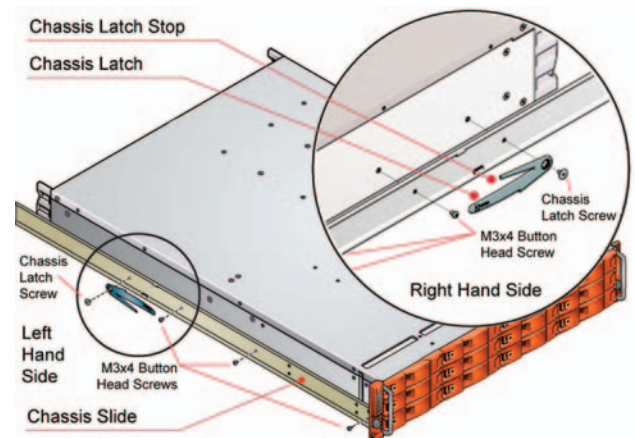

Figure 2: Securing Chassis Slides
2. Attach the left and right chassis slides to the enclosure sides using six M3x4 button head screws. Three screws each side see **Figure 2** for locations.
3. Assemble the left and right chassis latches using the chassis latch screws. Ensure that the latch is orientated as shown in **Figure 2**, with the spring arm (small arm portion) located against its stop. On the right hand side the stop is located at the top, and on the left side it is located at the bottom.